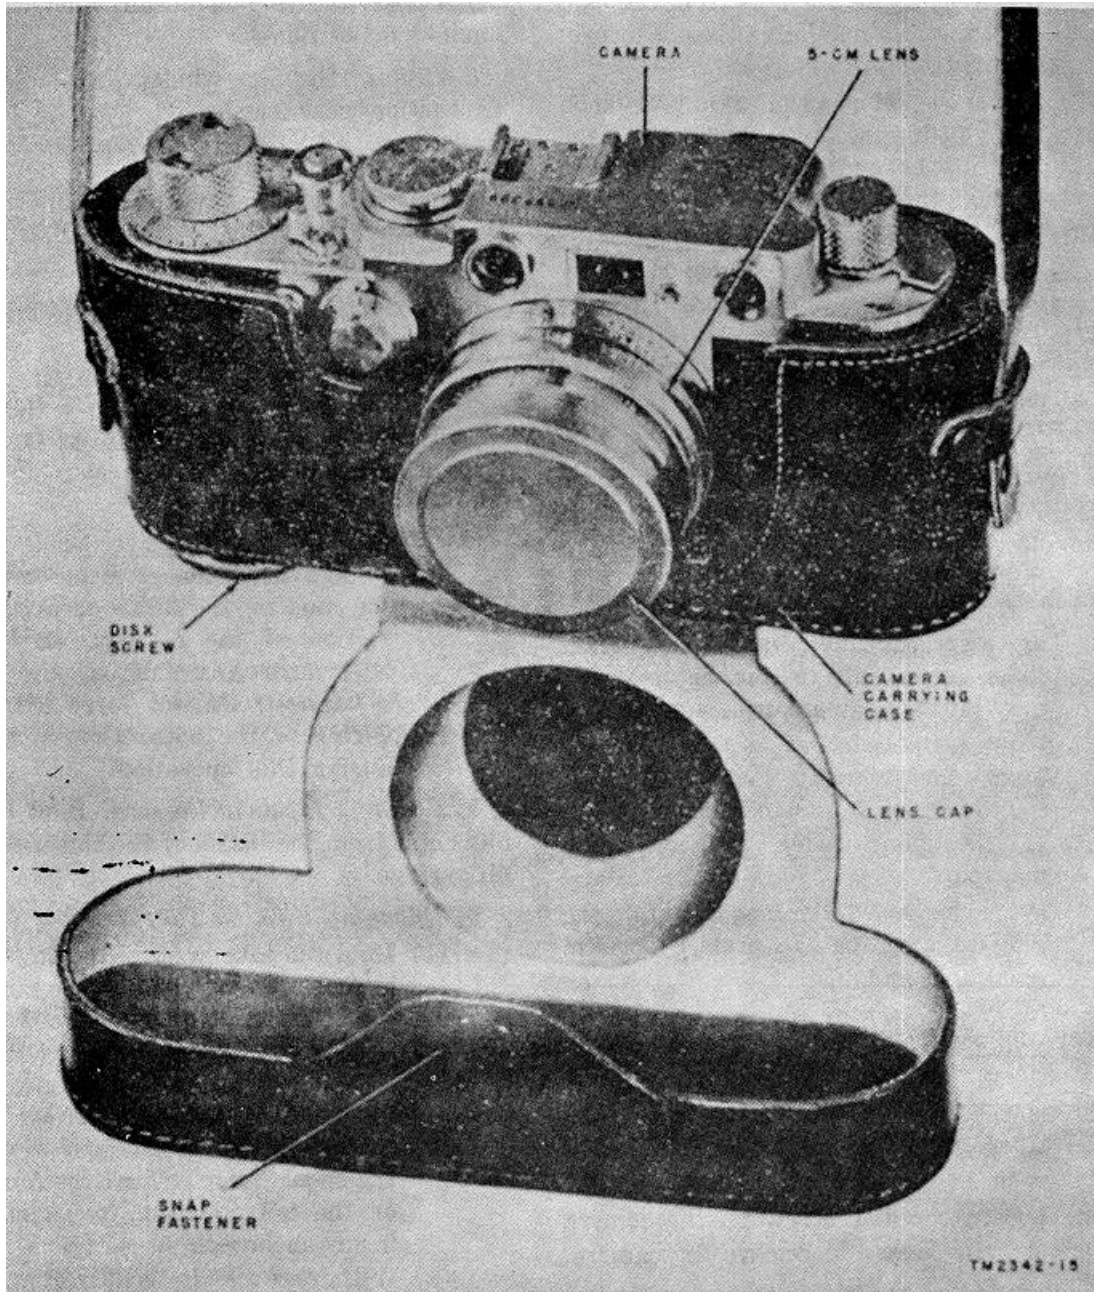

Figure 16. Camera, in camera case.
- (1) Unsnap the snap fastener (fig. 16) and open the camera carrying case.
- (2) Loosen the disk screw on the camera carrying case and remove the camera.